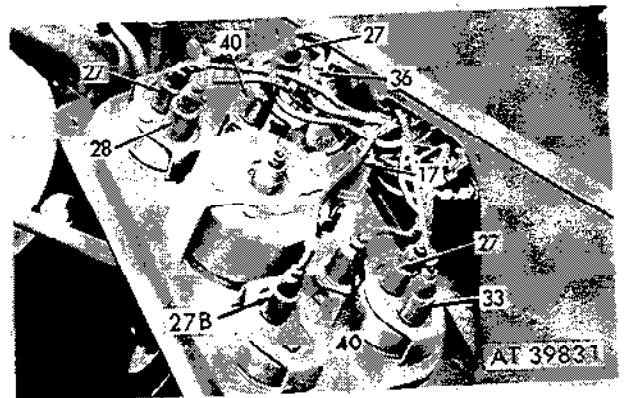

Figure 2-235. Pull connectors and remove cluster.
(21) Pull connectors from instruments and gages, and remove instrument cluster (fig. 2-235).
(19) Disconnect all connectors to various other gages on instrument cluster. Remove instrument cluster (fig. 2-235).